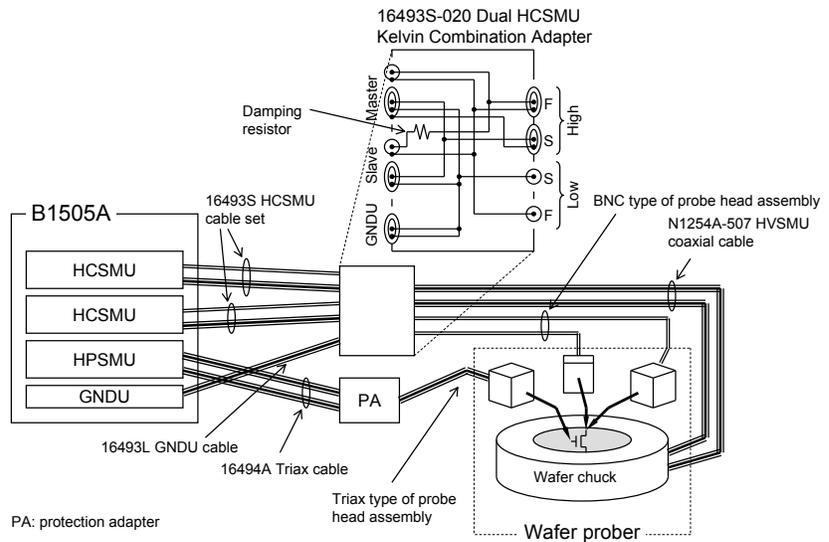

Figure 6. Block diagram of an on-wafer measurement using the 16493S-020 Dual HCSMU Kelvin Combination Adapter to place two HCSMUs in parallel (vertical MOSFET).
When performing on-wafer measurements with a wafer prober, the 16493S-020 Dual HCSMU Kelvin Combination Adapter should be used (please refer to Figure 6). The two HCSMUs connect to the master and slave terminals of the dual HCSMU Kelvin combination adapter using 16493S HCSMU cable sets, and the GNDU connects to the GNDU terminal using a 16493L GNDU cable. The separate sense and force terminals of the adapter's high and low outputs are connected to the prober positioners and wafer chuck, which in-turn enable connectivity to a power MOSFET on the wafer. In this particular case an HPSMU (High Power Source Monitor Unit) is also connected to the MOSFET's gate terminal through a protection adapter (PA), which prevents the HPSMU from getting inadvertently damaged by high currents coming from the HCSMUs. Note that in some other cases the PA is not necessary and can be omitted. As this example shows, the dual HCSMU Kelvin combination makes it easy to combine two HCSMUs together when making on-wafer measurements.